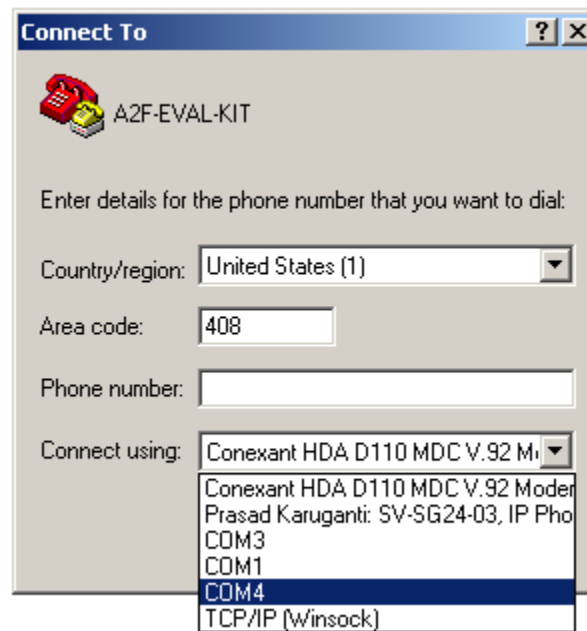

Figure 7 • HyperTerminal Port Selection
2. The Connect To window is displayed. Select the COM4 serial connection (Figure 7).